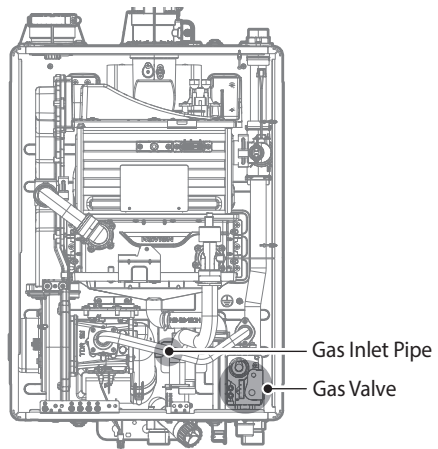

Figure 2. NHB-H Series Internal Components
8. With the internal components exposed, locate the gas inlet pipe and the gas valve in the middle of the unit, as shown in Figure 2.